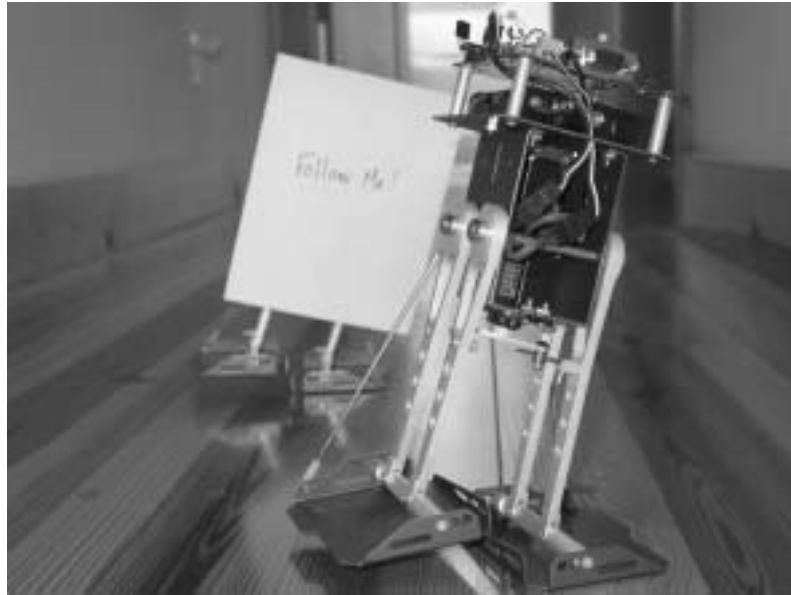

Figure 7-5: One Toddler Follows Another Toddler
Figure 7.5 shows a lead Toddler followed by a shadow Toddler. The lead Toddler could run any of the prior programs provided the speed is slower (increase the PAUSE values or decrease the Step values) and the shadow Toddler is running Program Listing 7.3: Shadow Walker. Proportional control makes the shadow Toddler a very faithful follower. One lead Toddler can string along a chain of 2 or 3 Toddlers. Just add a 4" x 4" paper to the lead Toddler's backside.
- √ If you are part of a class, mount paper panel on the back of the lead Toddler as shown in Figure 7.5.